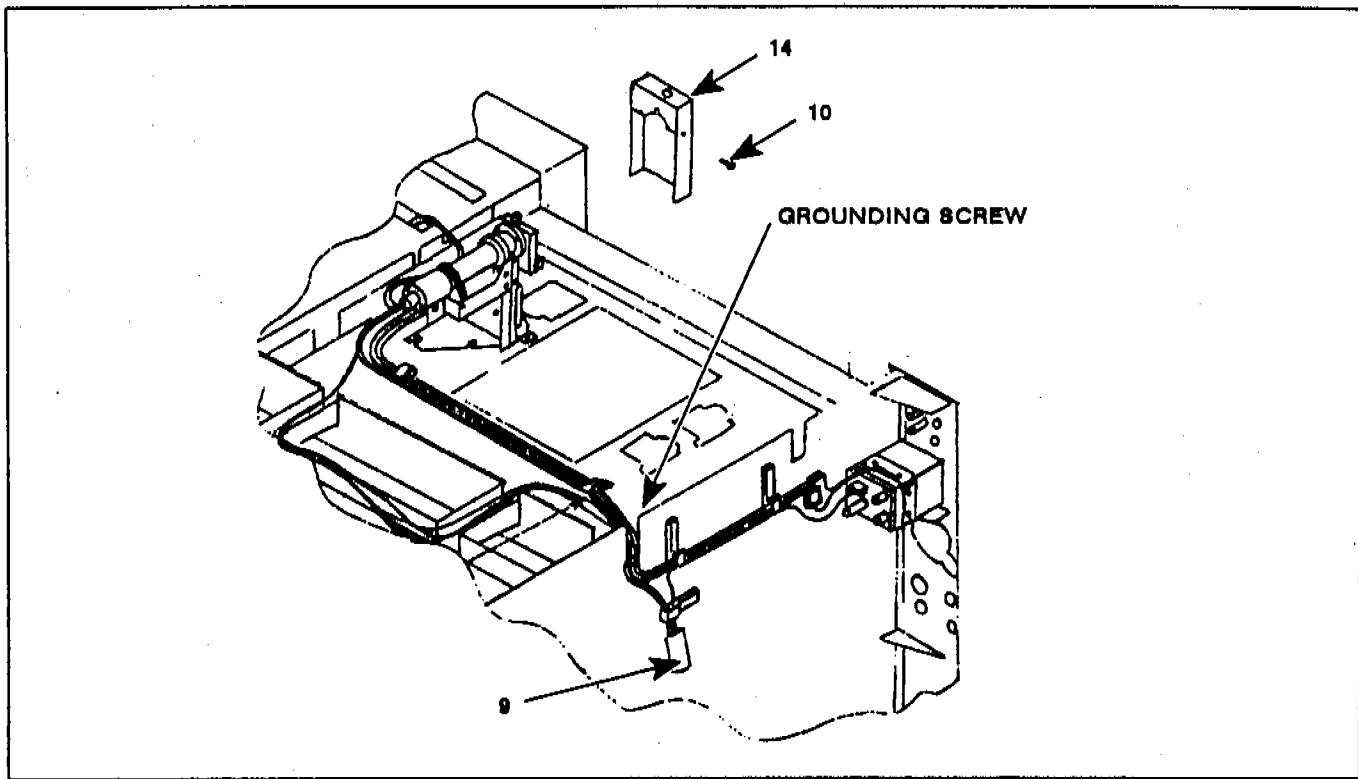

Figure 13
12. Install the diode clamp assembly (9) between the FPD burner chamber glow-plug and the pushbutton switch on the flow manifold block. Ground the harness with the spade lug lead and a screw to the mainframe as shown in figures 13 and 14.